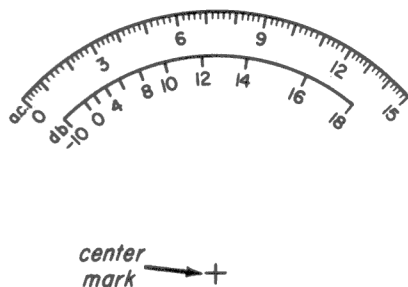
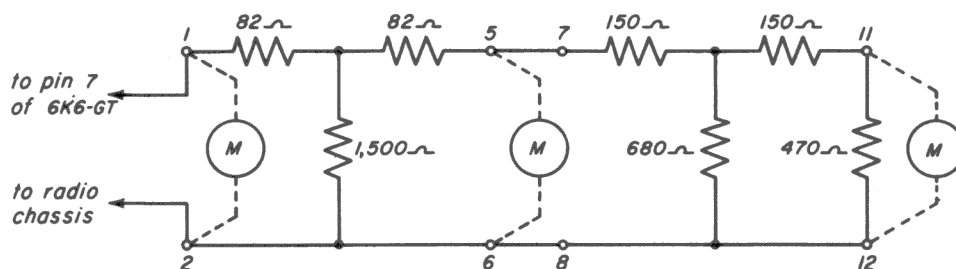

Fig. 34-4
Fig. 34-10
Step 5. When you have finished, check your results against Fig. 34-4.
Step 3. Examine Fig. 34-10 and, referring to the calibration graph, Fig. 34-2 or to the calibrated decibel scale, Fig. 34-4, measure the db level at the input (terminals 1 and 2)